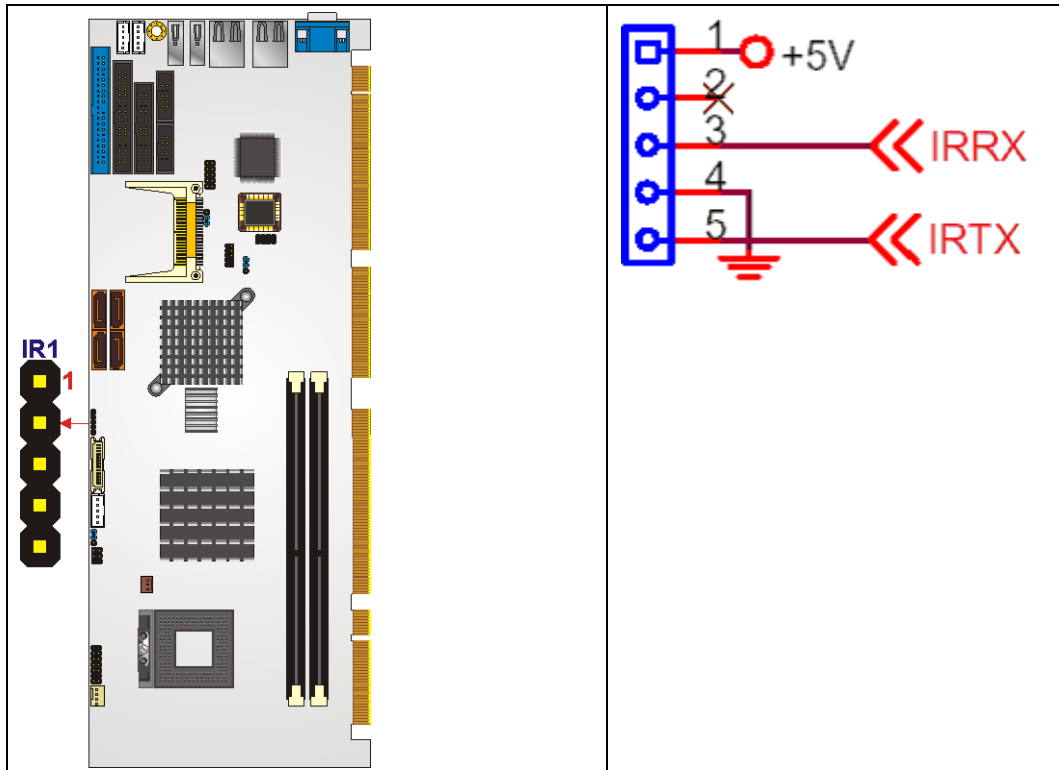

Figure 4-11: Infrared Connector Pinout Locations
- CN Location:** See Figure 4-11